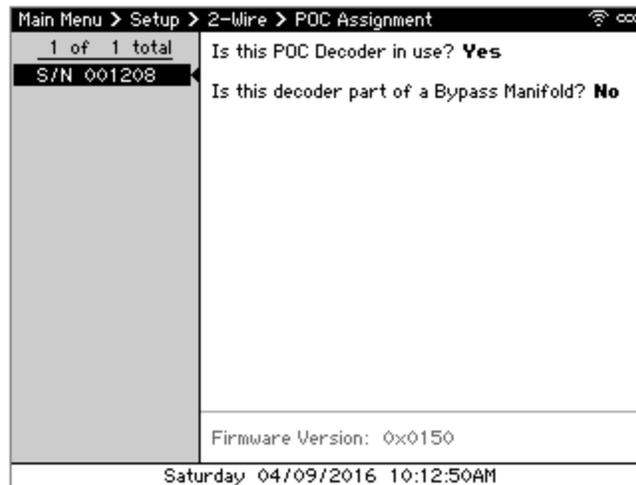

Figure 4 – POC Assignment screen
- From the 2-Wire dialog, navigate to and select **Assign POCs to Discovered Decoder** if it doesn't automatically appear. The Station Assignment screen displays (Figure 4). The pane on the left displays the 2-Station and Moisture Sensor decoders discovered while the right shows each's station assignments.